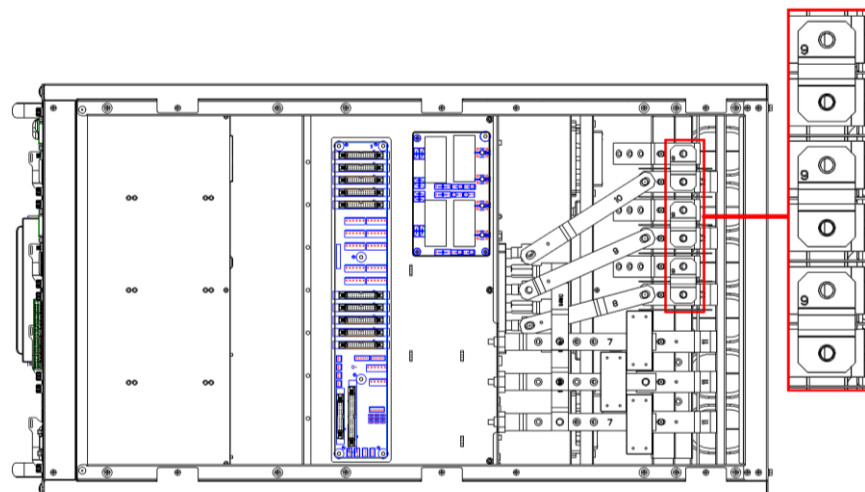

Figure 3-10 The copper bar connecting the mains and the bypass (No. 9 copper bar)
Step 1: Remove the connected copper bar of the UPS that the mains and the bypass are the same source. remove the top panel of the power distribution module, and then remove the copper bars 9(as shown in Figure 3-10). After being removed, a multimeter is needed to check whether the mains and the bypass are disconnected, and the power could be turned on after confirmation.